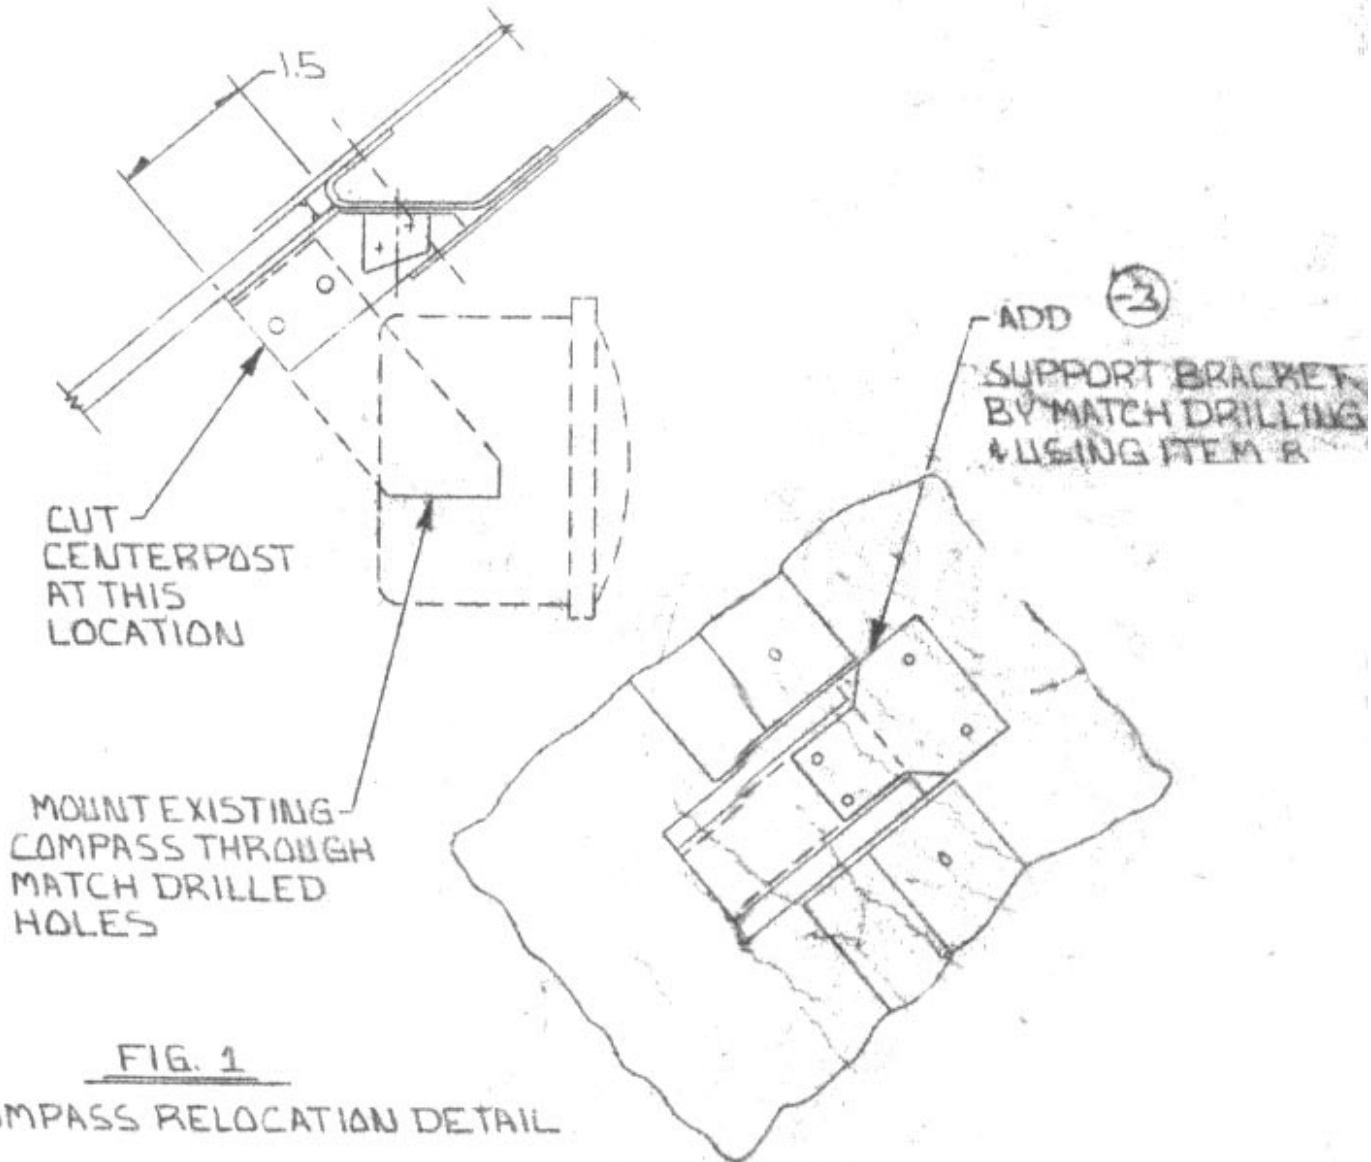

FIG. 1
2. REMOVE CENTER POST & BRACKETS COMPLETELY OR AS SHOWN IN FIG. 1
2. COMPASS MAY BE LOCATED AS SHOWN IN FIG. 1 OR IF AN ALTERNATE LOCATION IS SELECTED THE TRIM PLATE (5) SHOULD BE INSTALLED AT CENTER POST UPPER ATTACH POINT BY MATCH DRILLING & USING ITEM 8.